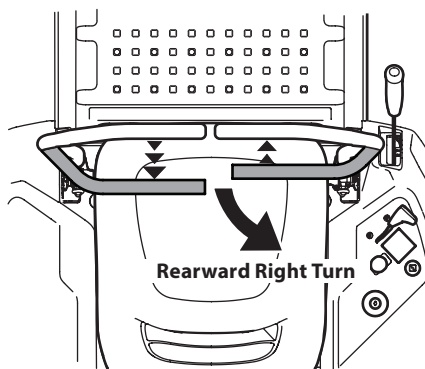

Figure 3-9
- To turn to the right while traveling in reverse, move the right drive control lever forward of the left drive control lever. See Figure 3-9.